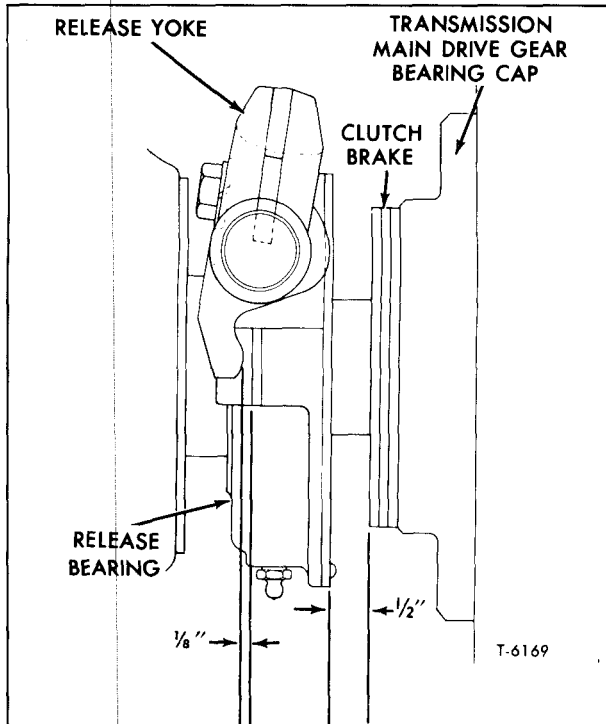
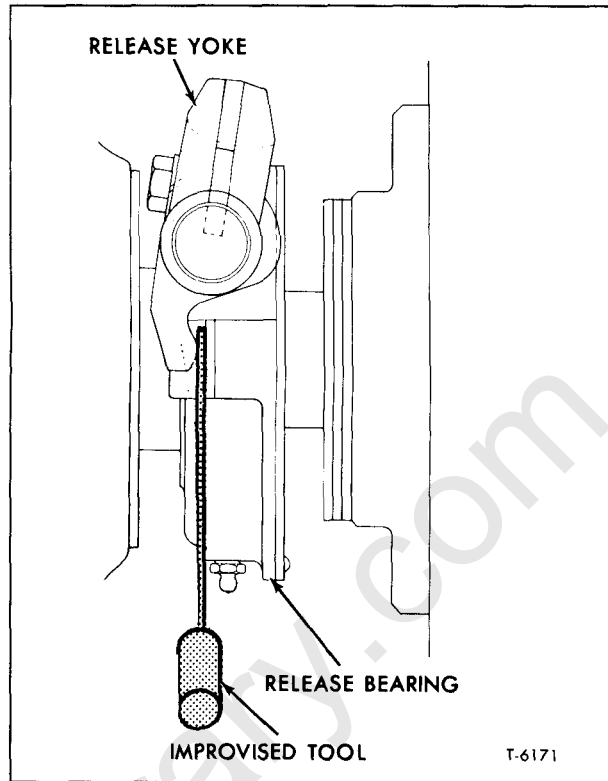
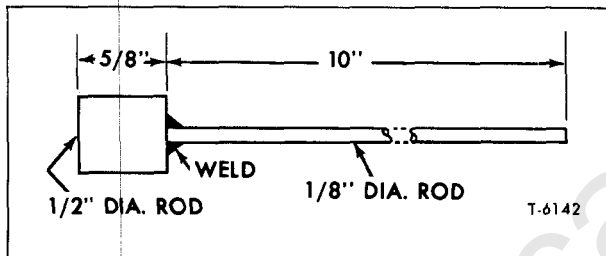

Figure 7—Release Bearing Clearance
Figure 9—Checking Clearance Between Yoke and Release Bearing
Figure 8—Improved Release Bearing Clearance Checking Tool
4. The clearance between release bearing and yoke (free-travel) should be 1/8-inch as shown in figure 7 - using small end of improvised tool (fig. 8), check clearance between yoke and release bearing as shown in figure 9. If clearance is more or less than recommended, rotate release lever adapter, using a 3/4-inch open end wrench, until gap between yoke and release bearing is 1/8-inch.